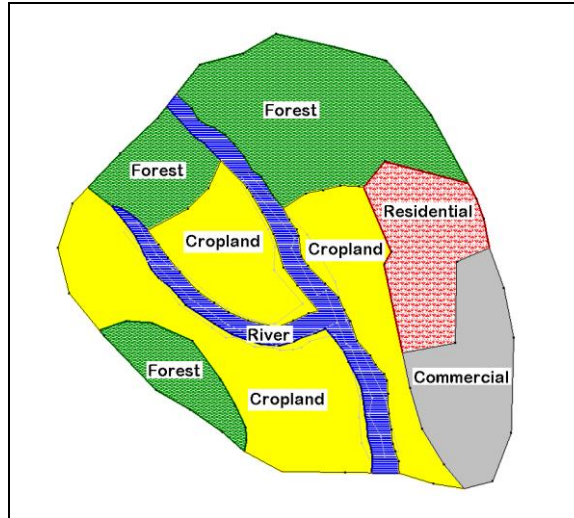

Figure 2 Materials used in HEC-RAS simulation
7. Double-click on the polygon that defines the river area (see Figure 2). This will open the *Land Poly Atts* dialog.